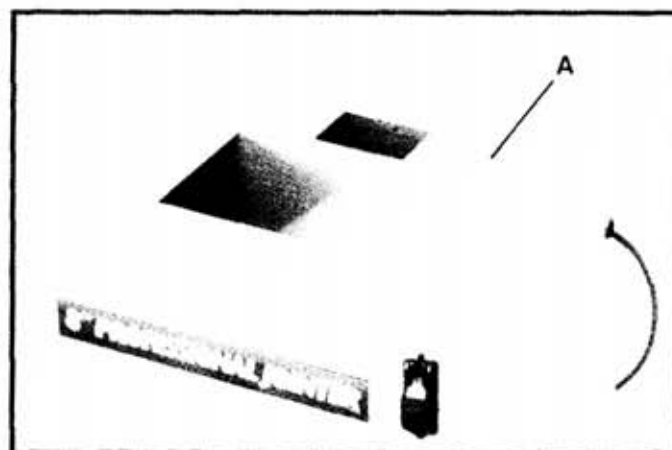

Fig. 4
Your jointer stand (A) Fig. 4, is shipped with the motor and switch completely wired, and the motor has been factory mounted.